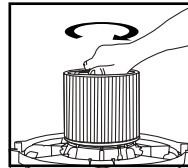

FIGURE 19
24. Hold the tank cover with one hand, turn the handle on the filter retainer clockwise to tighten, locking the filter into place. **FIGURE 19.**